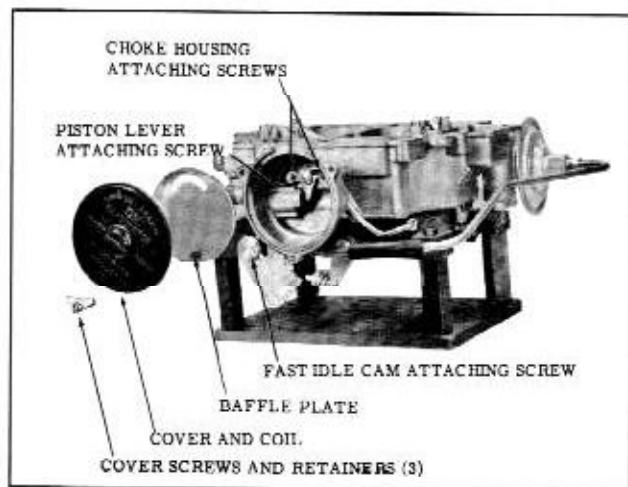

Fig. 8-110 Choke Assembly and Fast Idle Cam
1. Remove the fast idle cam attaching screw. (Fig. 8-110)
13. Install the choke housing gasket, intermediate choke lever and shaft with linkage, in the choke housing. (Fig. 8-110)